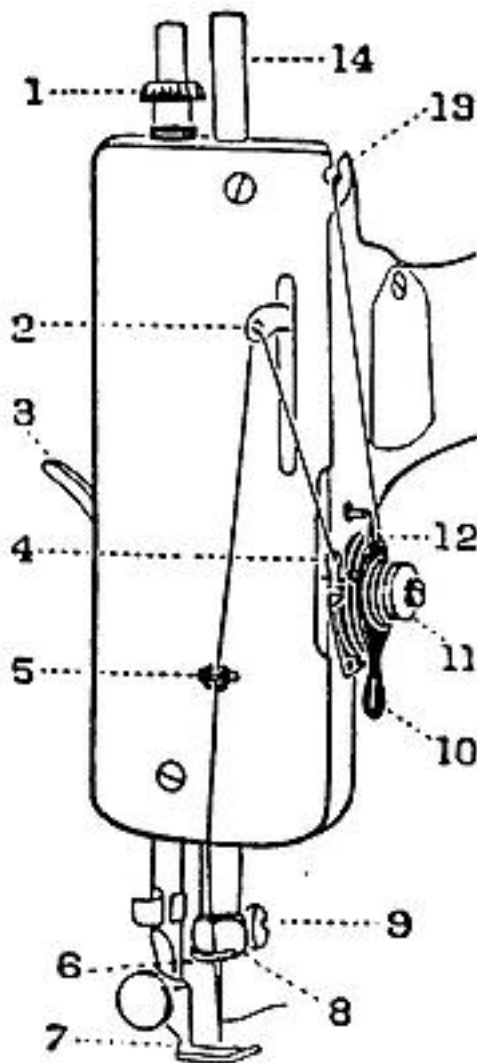
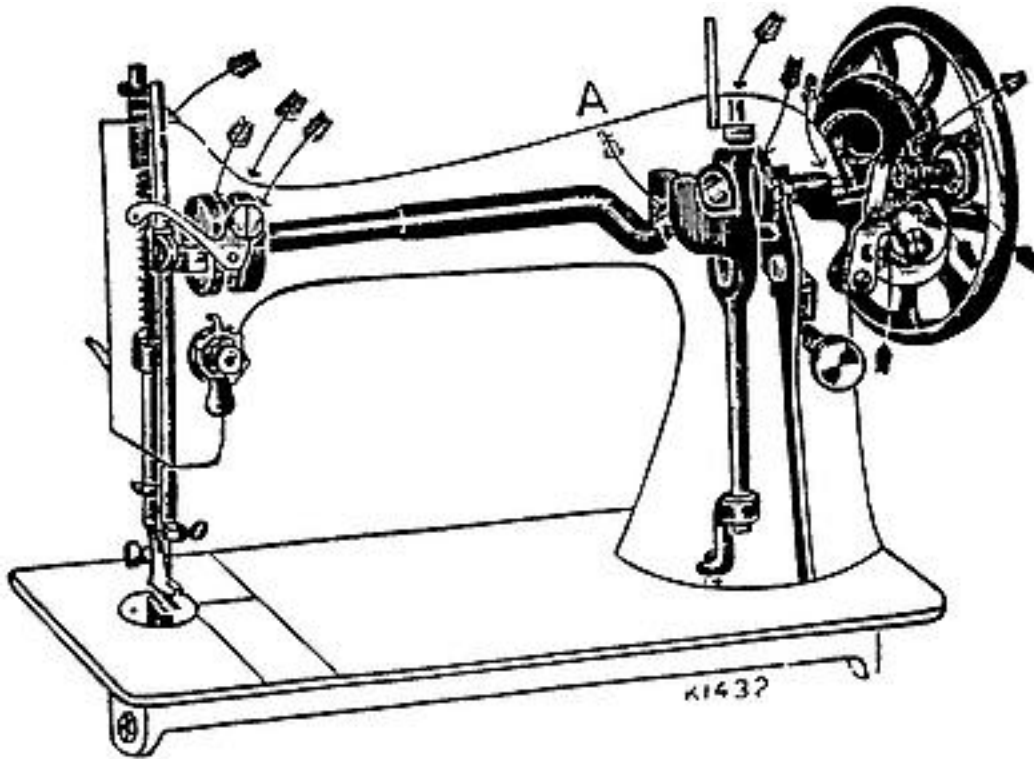

FIG. 5
FIG. 14
Tighten the hand wheel (see Fig. 3) and place a piece of material under the presser foot (7, Fig. 5). Then lower the latter by means of the lifter (3, Fig. 5). Now turn the handle over from you to work the machine, without its being threaded, until you are accustomed to guiding the material with the left hand.
(See Fig. 5)
Loosen the hand wheel (see Fig. 3) and push the top of the winder from you until its rubber ring (5) just touches the ledge of the hand wheel. Turn the latter over towards you until the thread guide (2) moves to the extreme right. Place a reel of thread on the spool pin; and pass the end of thread through the notch at top of the face plate (13, Fig. 5); then thread the winder by passing the thread upward through the eyelet (1) and into the notch (2). Draw the knob (3) to the left, and place an empty bobbin between the cup at the right (4) and the centre hole at the left. Now clamp the end of thread between the cup and the end of the bobbin, turn the hand wheel towards you and wind by operating the machine as when sewing. When nearly full remove the bobbin by pulling the knob (3) to the left, then withdraw the winder from the ledge of the hand wheel and tighten the latter by turning the stop motion screw from you.
Raise the needle bar to its highest, lift the presser foot (7, Fig. 5), at the same time pressing the tension release (10, Fig. 5) with the thumb of the right hand. Move the material back and to the left, and sever the threads by passing them over the thread cutter above the presser foot. Leave a few inches of thread under and at the back of the presser foot.
For ordinary family sewing it is seldom necessary to change the pressure on the material. If sewing fine silk or flimsy material, lighten the pressure by giving the thumb screw (1, Fig. 5) two or three turns upwards. To increase the pressure, give the thumb screw a few turns downwards.
If used constantly, the machine should be oiled daily, while with moderate use, an occasional oiling is sufficient. A drop of oil applied at the points indicated by arrows in Figs. 14 and 15 is sufficient. The small plate in front of the machine and the larger plate at the back should both be turned up and oil applied to the parts exposed. It is important that oil be applied to point "A," Fig. 14, when the take-up lever (2, Fig. 5) is at its lowest, and a little oil rubbed over the surface of the shuttle race. There are also two holes in the hand attachment to which oil should be applied occasionally. When oiling, insert the oil can spout well into the holes.